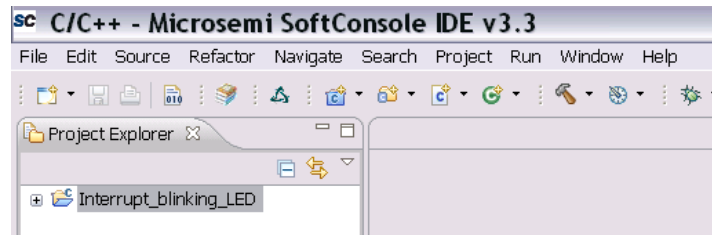

Figure 18 New Project Created
9. The created new project is displayed, as shown in Figure 18.